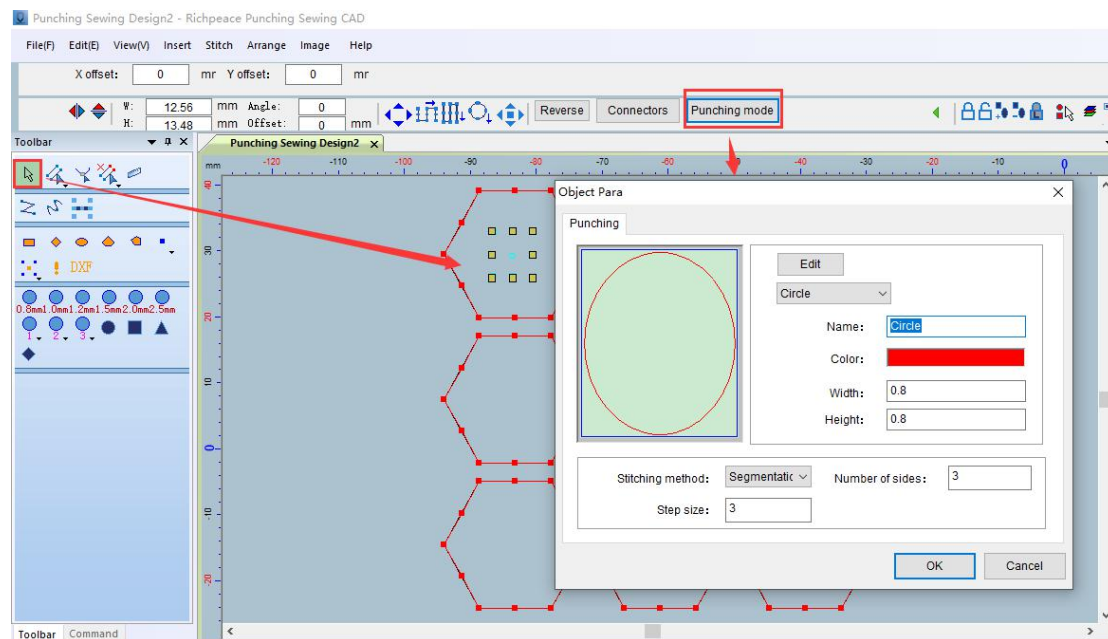

图 1 Picture1
Step 6: After drawing the punching point of a graphic, after selecting the punching point, click to modify the size and color of the hole. As shown in Figure 1, or after selecting the punching point, modify the size in the left toolbar as shown in Figure 2 . Click on the empty space to deselect when done.